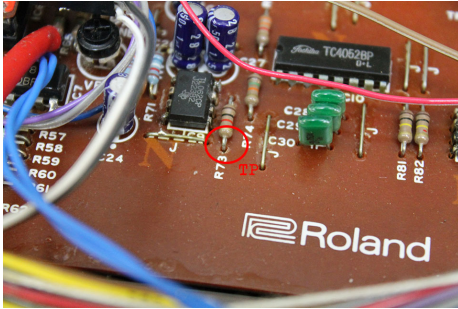

Figure 9: Test point for calibration
1. Connect a voltmeter to the testpoint shown in figure 9 at R73.